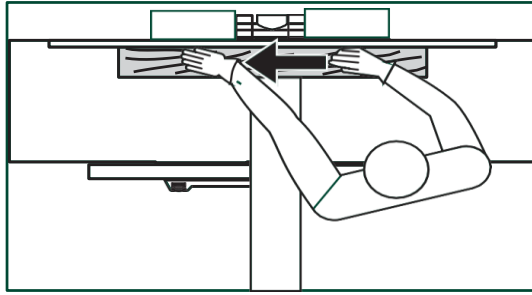

Figure 27.
3. When jointing, feed the workpiece right-to-left over the cutterhead FIG.27.